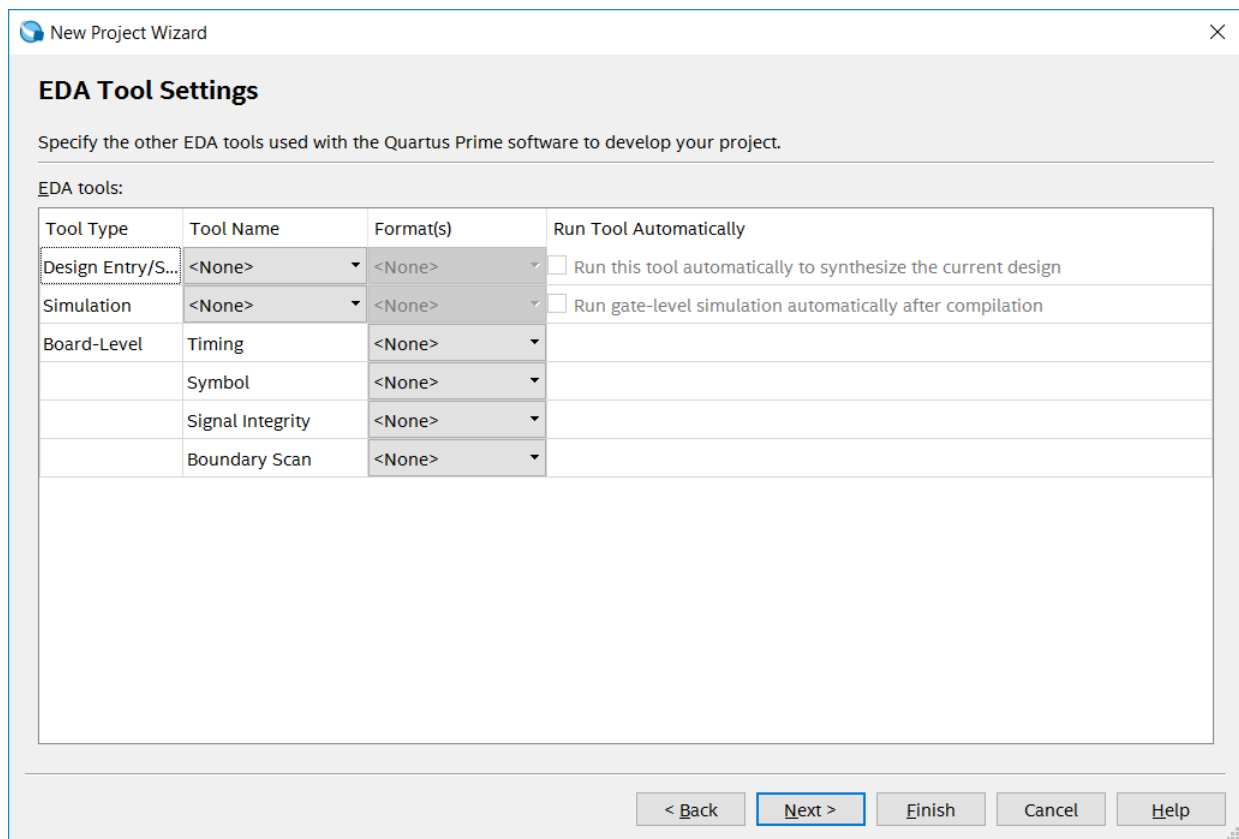

Figure 9. Other EDA tools can be specified.
- We have to specify the type of device in which the designed circuit will be implemented. Choose the Cyclone® series device family for your DE-series board. We can let Quartus Prime software select a specific device in the family, or we can choose the device explicitly. We will take the latter approach. From the list of available devices, choose the appropriate device name for your DE-series board. A list of devices names on DE-series boards can be found in Table 1. Press Next, which opens the window in Figure 9.